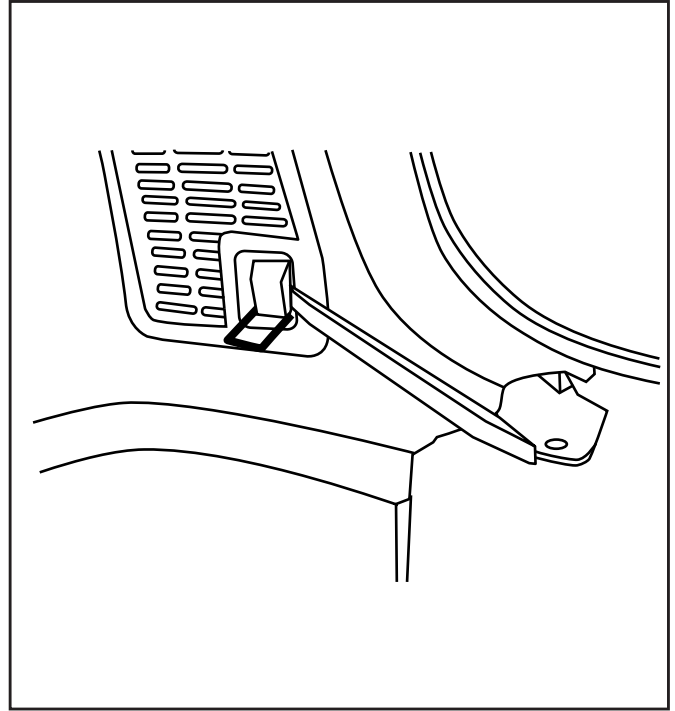
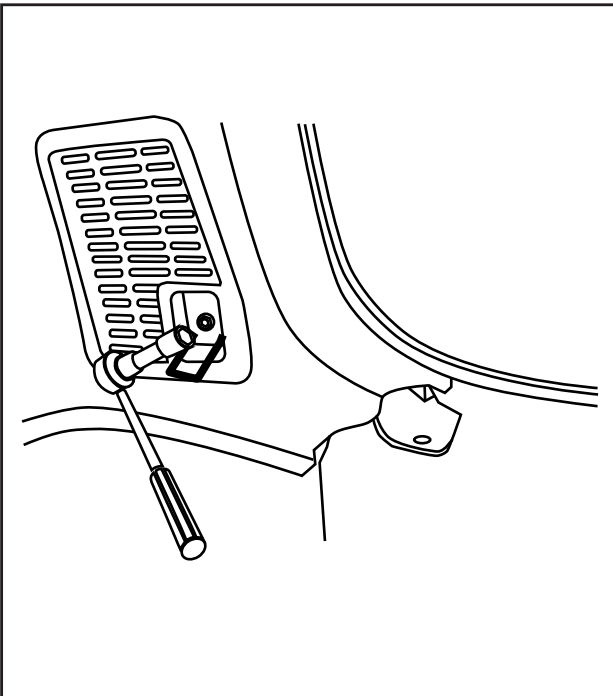

Fig. 13
Fig. 14
14. Remove plastic cover from bottom D-ring (Fig. 13). Remove bolt with ratchet and 10mm socket (Fig. 14).